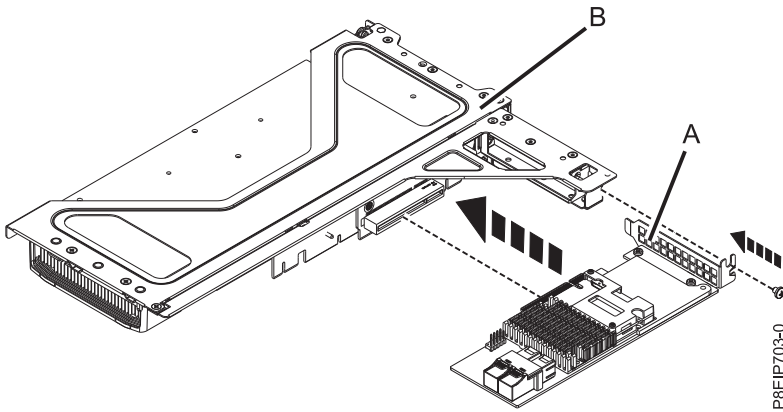

Figure 42. Inserting an adapter into position 3 of the riser
- b. Insert the adapter (A) into the riser (B) as shown in Figure 42, aligning it properly and inserting it fully into the slot. Secure the adapter tail-stock with 1 or 2 screws as needed.